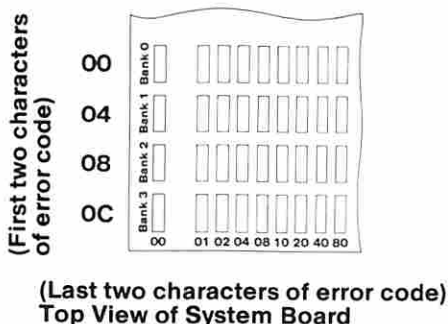

Figure 2. System Board
- Find the failing bank and module in Figure 2.